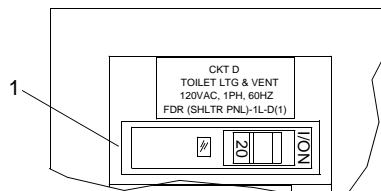

Figure 1. Circuit Breaker D
1. Position circuit breaker D (figure 1, item 1) on the personnel shelter electrical distribution panel to OFF and tag out (FM 55-502).